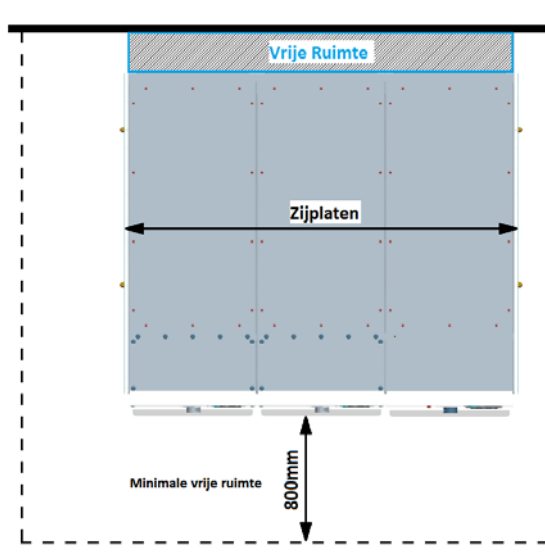

Figure 1: Top view of installed cubicles
- Between the rear side of the cubicles and the wall of the installation room, ample free space needs to be respected, as displayed in Figure 1. This layout corresponds with an assembly where the side plates of the cubicles reach the rear side of the installation room. As a result, the free space behind the cubicles is entirely closed off. Consequently, a possible internal arc will trigger the overpressure system of the rear plates.